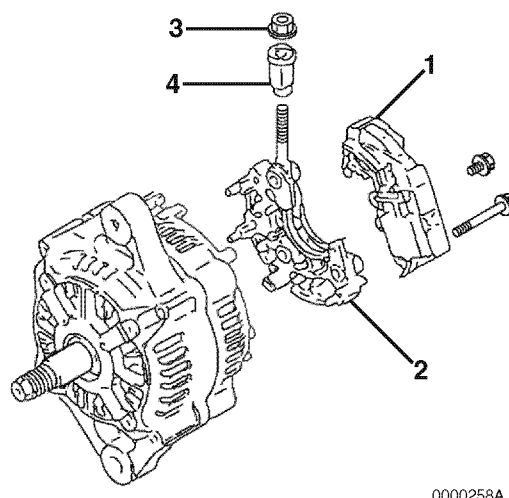

Figure 11-16
6. Reinstall the insulation bushing (**Figure 11-16, (4)**) and nut (**Figure 11-16, (3)**).
7. Reassemble the regulator assembly (**Figure 11-16, (1)**) to the holder (**Figure 11-16, (2)**).